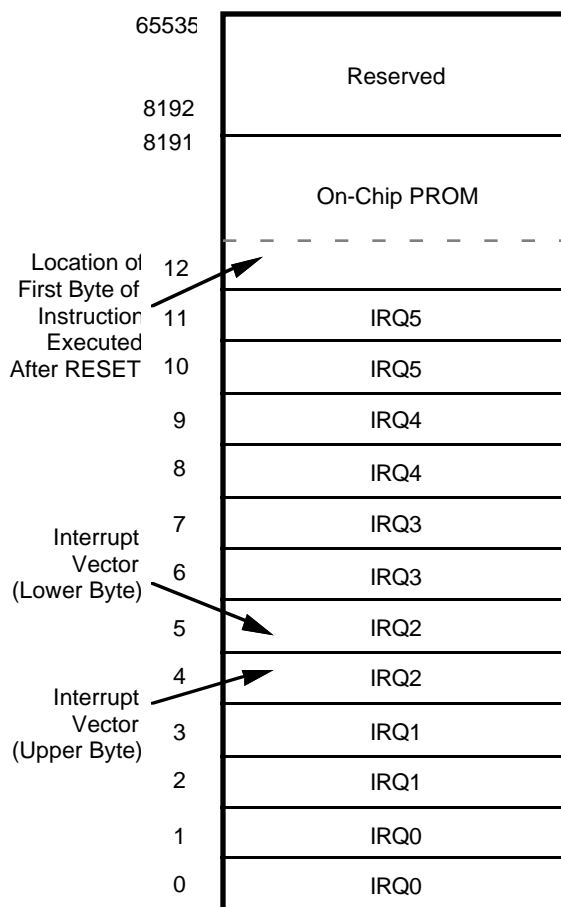

Figure 12. Program Memory Configuration
**Program Memory.** The 16-bit Program Counter can address 8 KB of program memory (Figure 12). The first 12 bytes of program memory are reserved for the interrupt vectors. These locations contain six 16-bit vectors that correspond to the six available interrupts. For EPROM mode, byte 13 to byte 8191 consists of on-chip EPROM. Addresses 8192 and above are reserved.